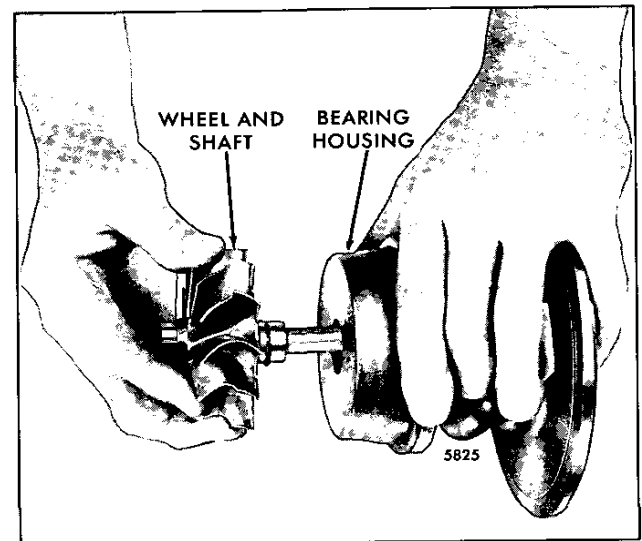

Fig. 15 - Installing Shaft and Wheel Assembly through Back Plate into Bearing Housing
4. Lubricate the piston ring area of the shaft and wheel assembly with clean engine oil and install it through the backplate and into the bearing housing (Fig. 15). *Be careful and avoid damage to the piston ring.*